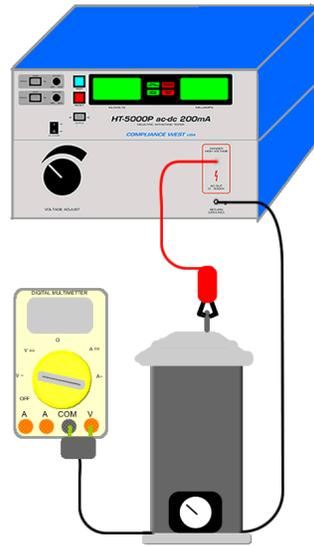

Figure 4-1. Voltage Measurement with 1000:1 High Voltage Probe
4. Set up a 1000:1 probe with an external volt meter as is shown on Figure 4-1.
3. Set up a 1000:1 probe with the volt meter as is shown on Figure 4-1.